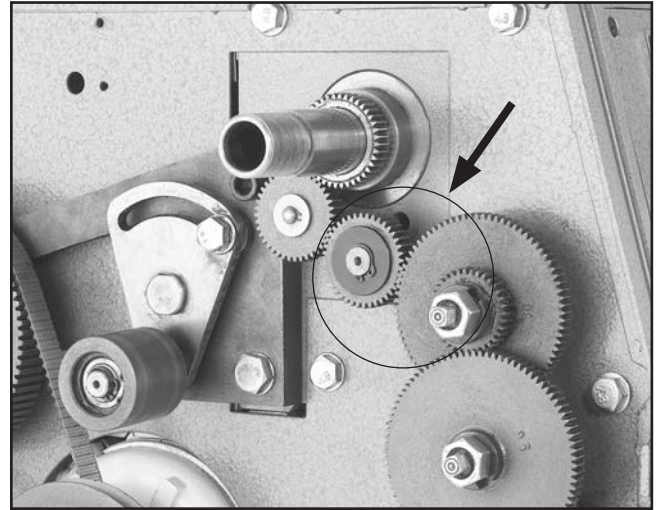

Figure 47. All gears in mesh for reverse threading operations.
5. Loosen the cap screw on the gear bracket, and pivot the bracket so the top gear meshes with the fixed-shaft gear that is in position "C," as shown in **Figure 47**.